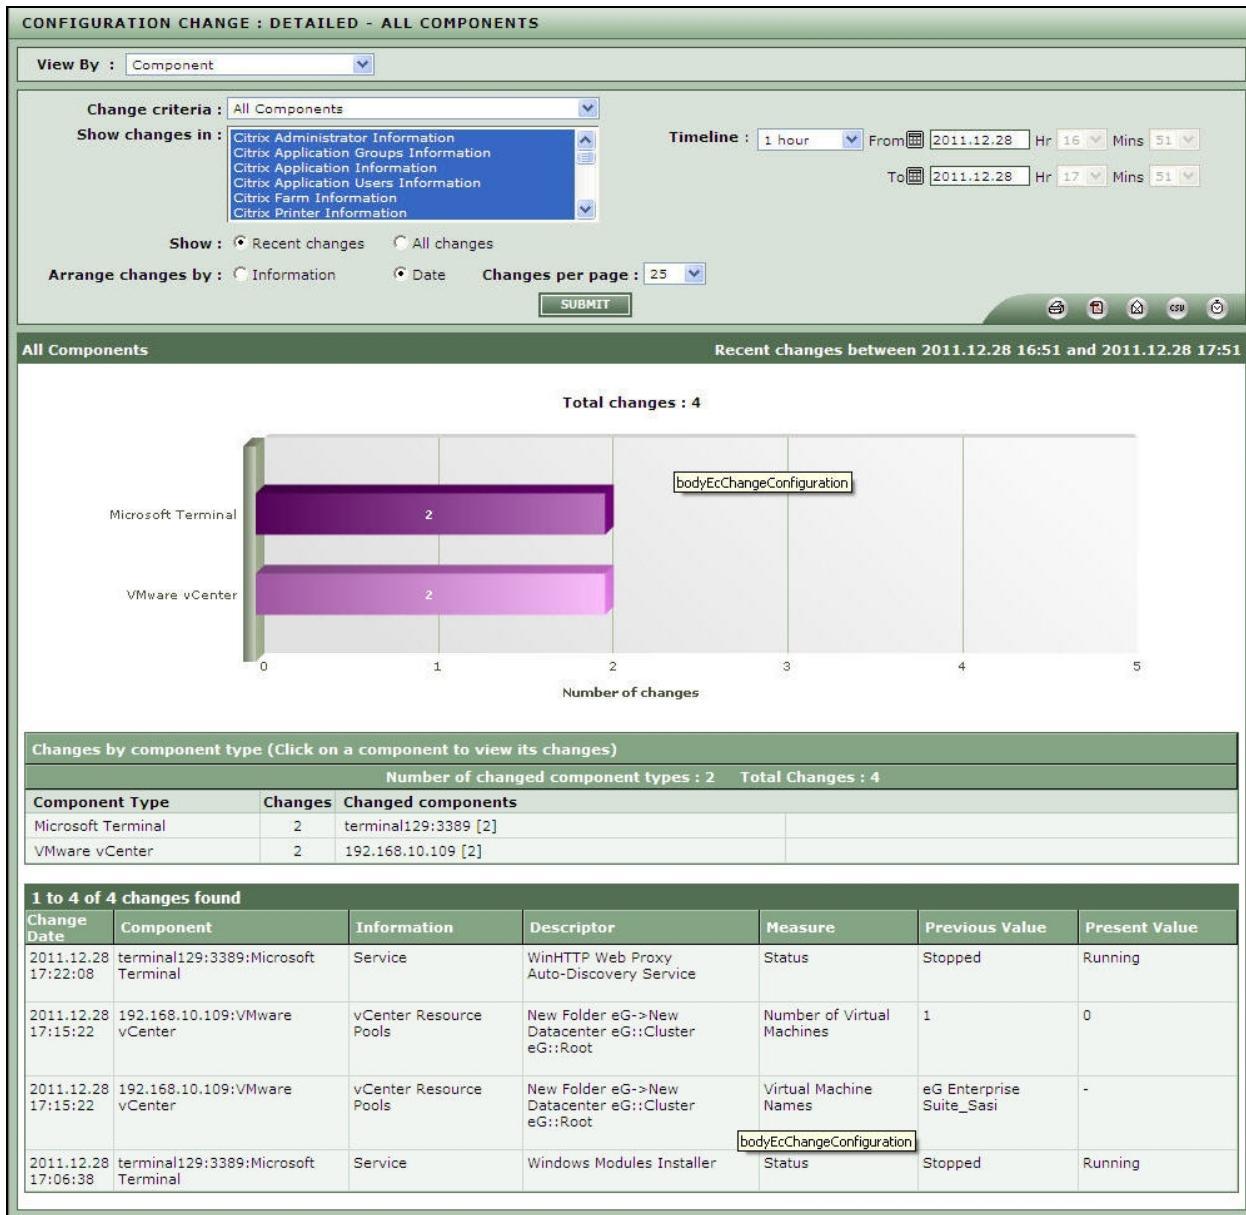

Figure 4.6: Viewing configuration changes across the components
1. Select **All Components** from the **Change criteria** list box as depicted in Figure 4.6.
3. Next select a timeperiod from the **Timeline** list box as depicted in Figure 4.6. Using this option, you can view the configuration changes that were effected on the basis of days, weeks and hours. The maximum duration of period available in this list box is 1 month. If your requirement is not available in this list box, then select **Any** option from the **Timeline** list box. This will invoke the calendar capability, to which you can select choice of your date using the **From** and **To** fields that are available.
7. Finally, click the **SUBMIT** button(see Figure 4.6).